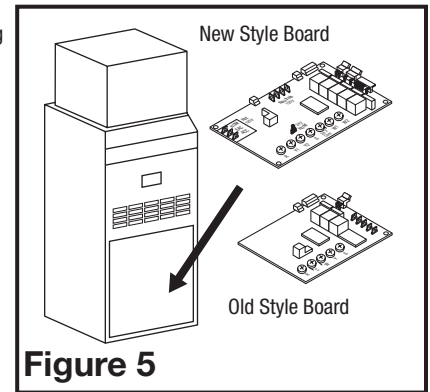

Figure 5
**24 VAC Thermostat Interlock** (Cycles humidifier whenever furnace is in heating mode and humidistat calls for humidity) (Figures 5 and 6).